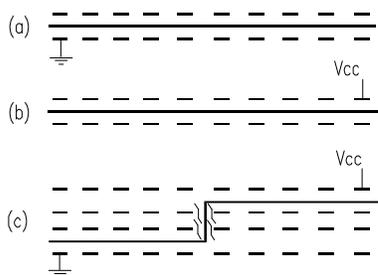

Figure 2
There is one other problem in trace routing one rarely sees discussed. Think of a coaxial transmission line. It is a signal line whose geometric relationship to ground is well defined and controlled (as in Figure 2(a)). Although we rarely see it done this way, a coaxial cable would be equally effective if the shield were attached to V_{CC} (as in Figure 2(b)) --- as long as V_{CC} was well regulated and there was a low impedance ac path between ground and V_{CC} . But now if someone spliced a signal line between two coaxial cables such that part of the length was reference to ground and part of it was referenced to V_{CC} (as in Figure 2(c)), we would question the wisdom of such a move.
- (b) when we arbitrarily transition the reference from one plane to another (as we might do when we move a signal through a via to another layer) as suggested in Figure 2(c).